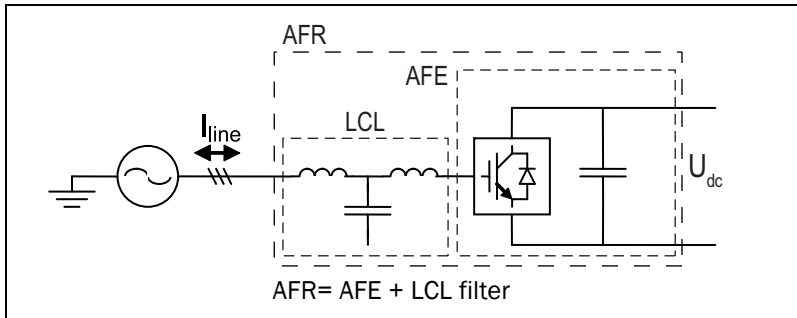

Fig. 4 AFR
AFR consists of Emotron power electronic module (AFE) connected to grid through LCL filter as shown in Figure 4. The main objective of the Emotron AFR is to rectify the supply AC voltage into the DC voltage to be fed to or regenerated from the VSIs (motor inverter). It also keeps the harmonic content of the current exchanged with grid at low level, maintaining the THD(I) below 5%. AFR offers standard AFE functionality such as: